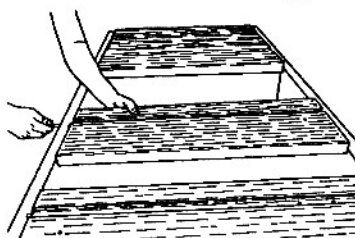

Fig. A-25
27. Insert a spacer between the extension table and fence tube. Hold the spacer in place while you insert a screw through the fence tube and spacer and into the extension table, as seen in Fig. A-25.